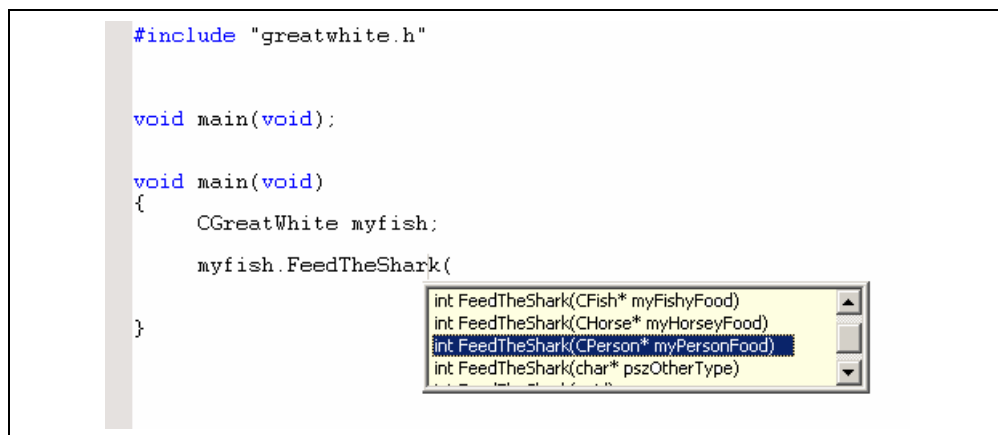

Figure 14.3: Smart-edit function selection
- If you are trying to use a C++ function then the dialog in Figure 14.3 is displayed when the first open bracket is entered. This dialog allows you to see what functions are available for the current object. Selecting the function automatically enters the remaining parameters for you.